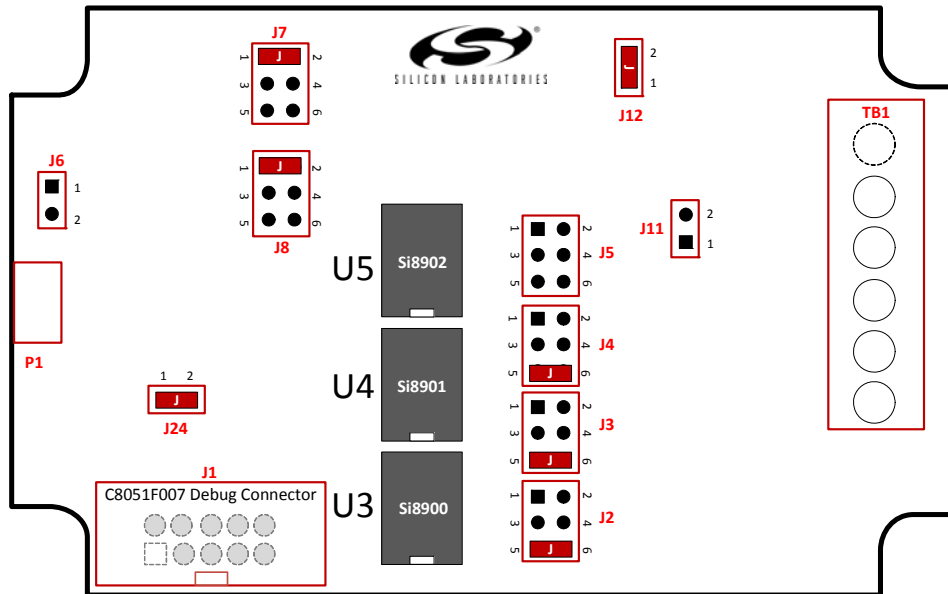
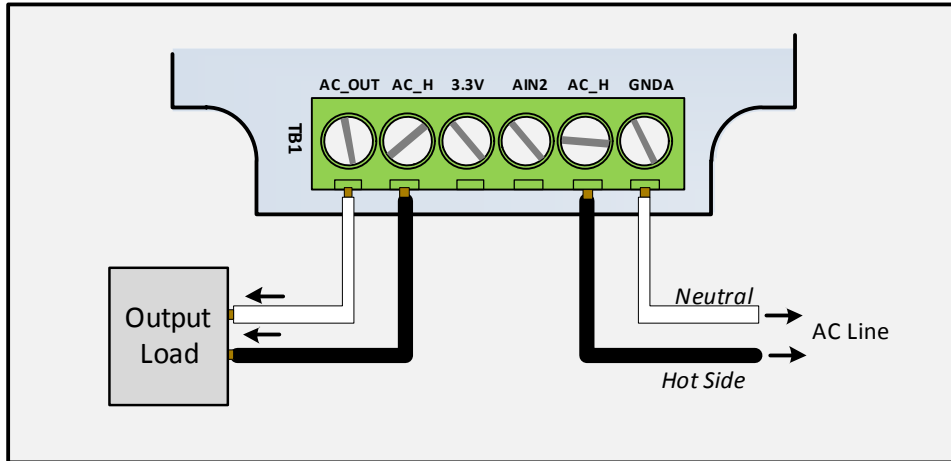

Figure 3. EVB Default (Factory) Jumper Settings
Figure 6. AC Line and Load Connections to Barrier Strip TB1 (Top of Board View)
2. The default factory EVB settings enable the Si8900 (UART). Verify the factory jumper option settings using Table 1 (use Figure 3 to locate the configuration headers). If so desired, the Si8901 or Si8902 can be selected instead of the Si8900 by following the instructions in Paragraph 3. Otherwise, skip to paragraph 4.
4. Locate the six-screw ac line terminal block (TB1) on the right side of the circuit board. With the ac line disconnected from the outlet, loosen the screws on TB1 corresponding to AC_H and GNDA, as shown in Figure 6. Strip 1/4 inch of insulation from the “hot side” of the ac wire and insert the wire through the enclosure opening and into the AC_H terminal block opening. Be sure there is no bare wire exposed. Tighten the screw on the terminal block to secure the AC_H wire. Repeat this procedure for the GNDA wire connection to TB1.
5. Locate the ac output (load) terminals AC_OUT and AC_H on TB1 as shown in Figure 6. With the ac line disconnected from the outlet, loosen the screws on TB1 corresponding to AC_OUT and AC_H, as shown in Figure 3. Strip 1/4 inch of insulation from the “hot side” of the ac wire and insert the wire through the enclosure opening and into the AC_H terminal block opening. Be sure there is no bare wire exposed. Tighten the screw on the terminal block to secure the AC_H wire. Repeat this procedure for the AC_OUT wire connection to TB1.